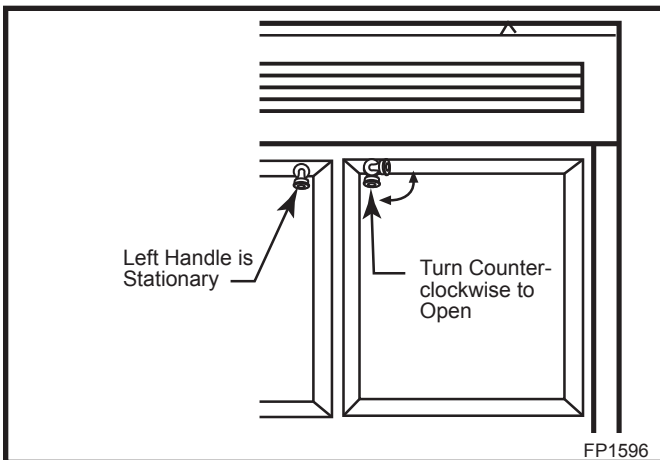

Fig. 26 Turn right door handle counterclockwise to open.
8. Close the left door. To close the right door, turn the right handle stub to the right and up. Close the door and turn the handle stub to the left and down to secure door. (Fig. 26)